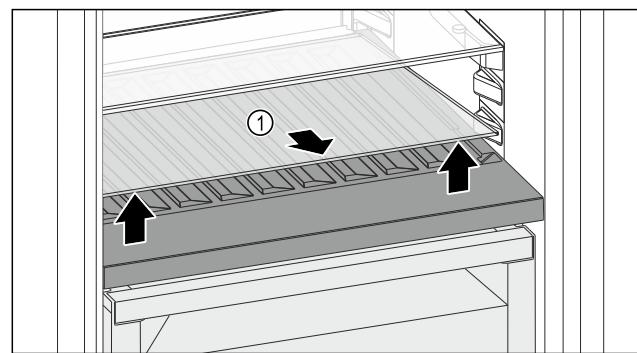

Fig. 97
- ▶ Lift the glass shelf Fig. 97 (1) at the front and remove.
- ▶ Store the glass shelf Fig. 97 (1) in a safe place outside the appliance.